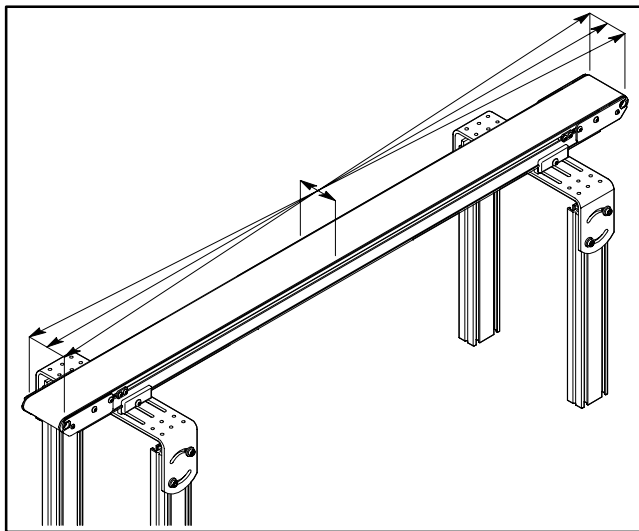

Figure 1
3. Conveyor must be mounted straight, flat and level, within confines of conveyor. Use a straight edge and a level for initial set up (Figure 1).